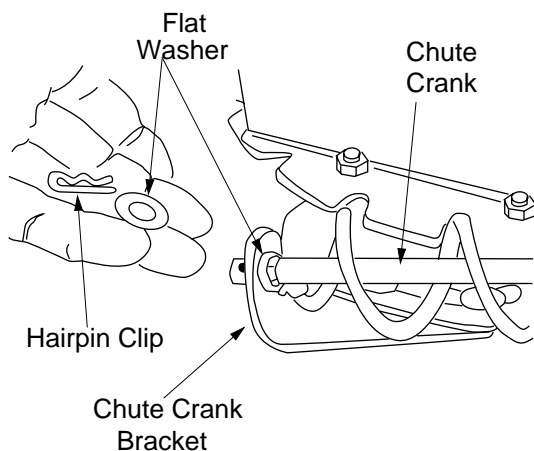

Figure 13
2. Place one flat washer over the end of the chute crank, then insert the end of the crank into the hole in the plastic bushing in the chute bracket. See Figure 13. Place second flat washer on chute crank, and secure with hairpin clip.
5. Adjust the chute crank support bracket (see Figure 13) so that the spiral on the chute crank fully engages the teeth on the chute assembly. Tighten the nuts on the chute crank bracket securely. Tighten the hex nuts on the eyebolt.